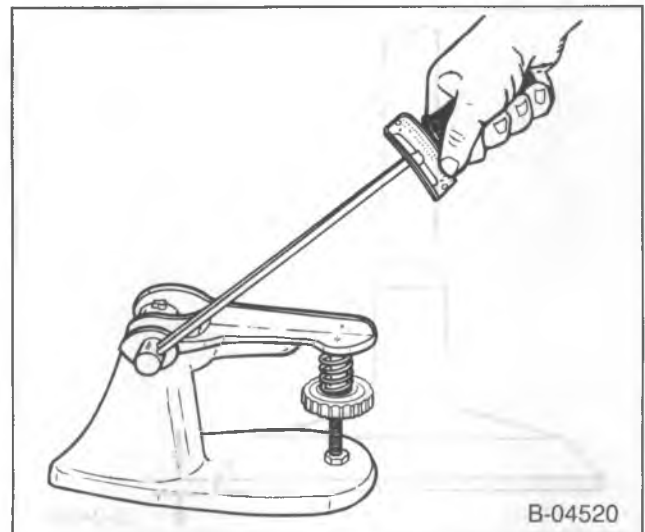

Figure 33—Measuring Valve Spring Tension
- Valve spring tension. Use J 8056 or equivalent (figure 33).